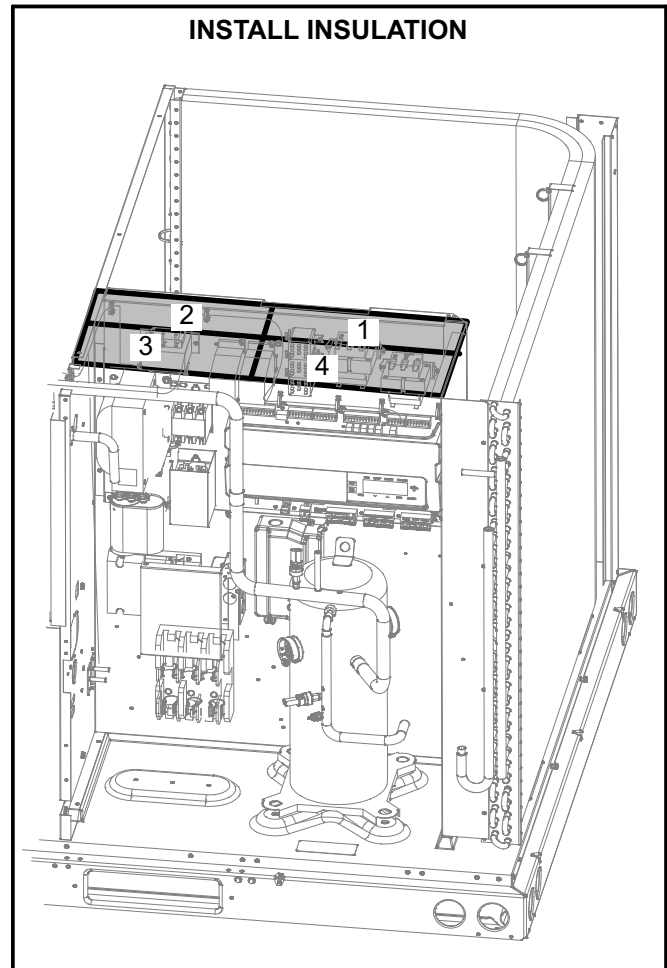

FIGURE 1
- 3- Position the first piece of insulation on the control box ceiling as far back and to the right as possible. See figure 1.
- 4- Cut to fit the rest of the pieces of insulation in the order shown in figure 1. Make sure there are no gaps between the edges of insulation. Fill in any gaps with extra insulation sheets.